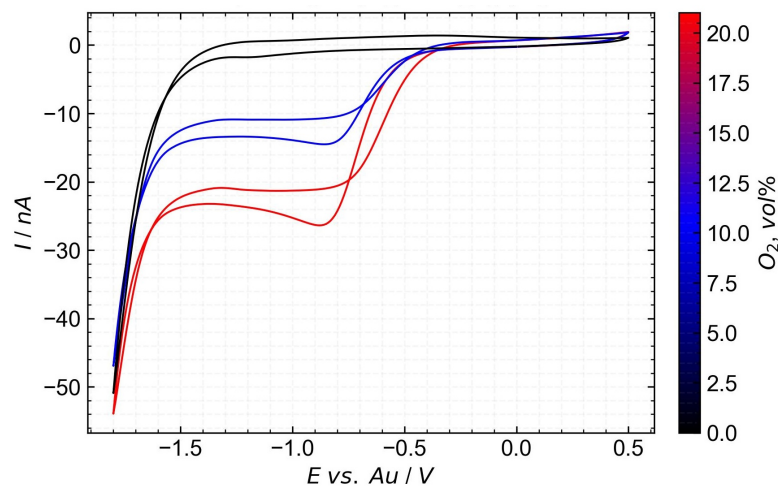

Fig. 2 – Example of cyclic voltammetry at different oxygen concentrations
Task 3 in the GitHub repository contains data from a cyclic voltammetry (CV) test. This is a common and rapid test performed in our laboratory to evaluate the ability of a material or sensor to detect gases, such as oxygen. The test is conducted by linearly sweeping the electrode potential while recording the resulting current at the electrode. The potential sweep is then repeated in a triangular waveform. An example is shown in Fig. 2.